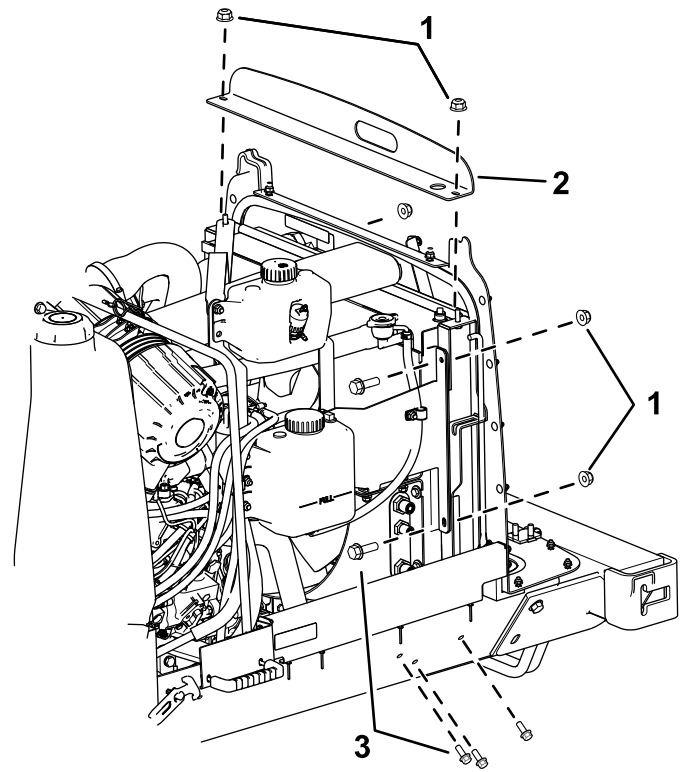

Figure 3
2. Remove the radiator bracket on top of the radiator (Figure 3).
3. Remove the 2 bolts on each side of the radiator (Figure 3).
4. Remove the 3 bolts at the bottom of the radiator on each side (Figure 3).
7. Raise the radiator up, slide the new radiator support under the radiator, and secure it with the bolts removed in Figure 3.